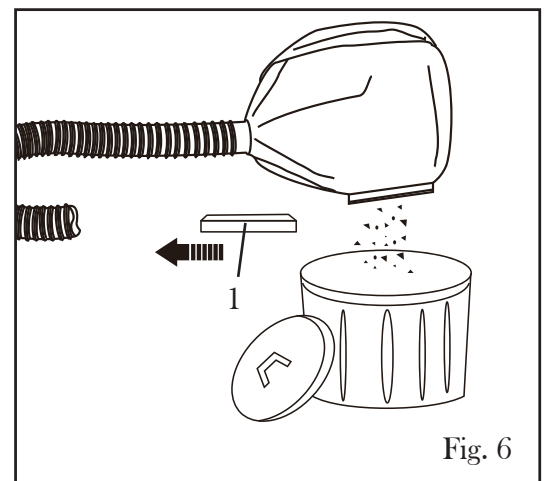

Fig. 6
2. Hold the dust bag over a trash can. Remove the clasp (Fig. 6 - 1) and empty the dust bag.